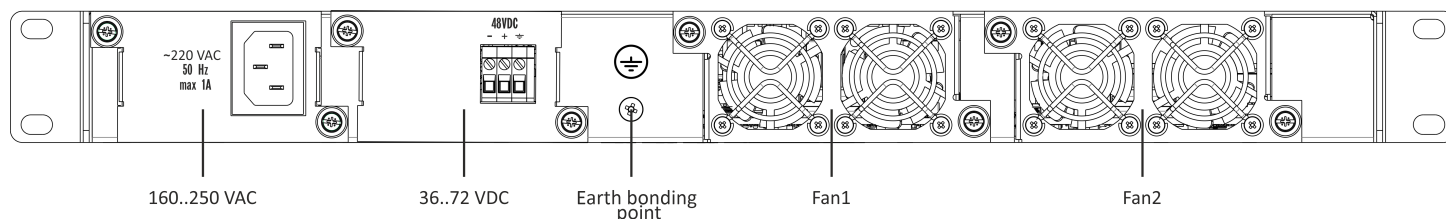

Figure 3 – LTP-8(16)N(T) rear panel
The rear panel of the device is shown in Figure 3.
There are ventilation openings on the device rear, front and side panels for heat dissipation. There are two ventilation units on the rear panel (Figure 3).
- **Step 2.** Ground the case of the device. This should be done prior to connecting the device to the power supply. An insulated multiconductor wire should be used for earthing. The device grounding and the earthing wire section should comply with Electric Installation Code. The ground terminal is on the rear panel, Figure 3.
2.9 LTX-8(16) design